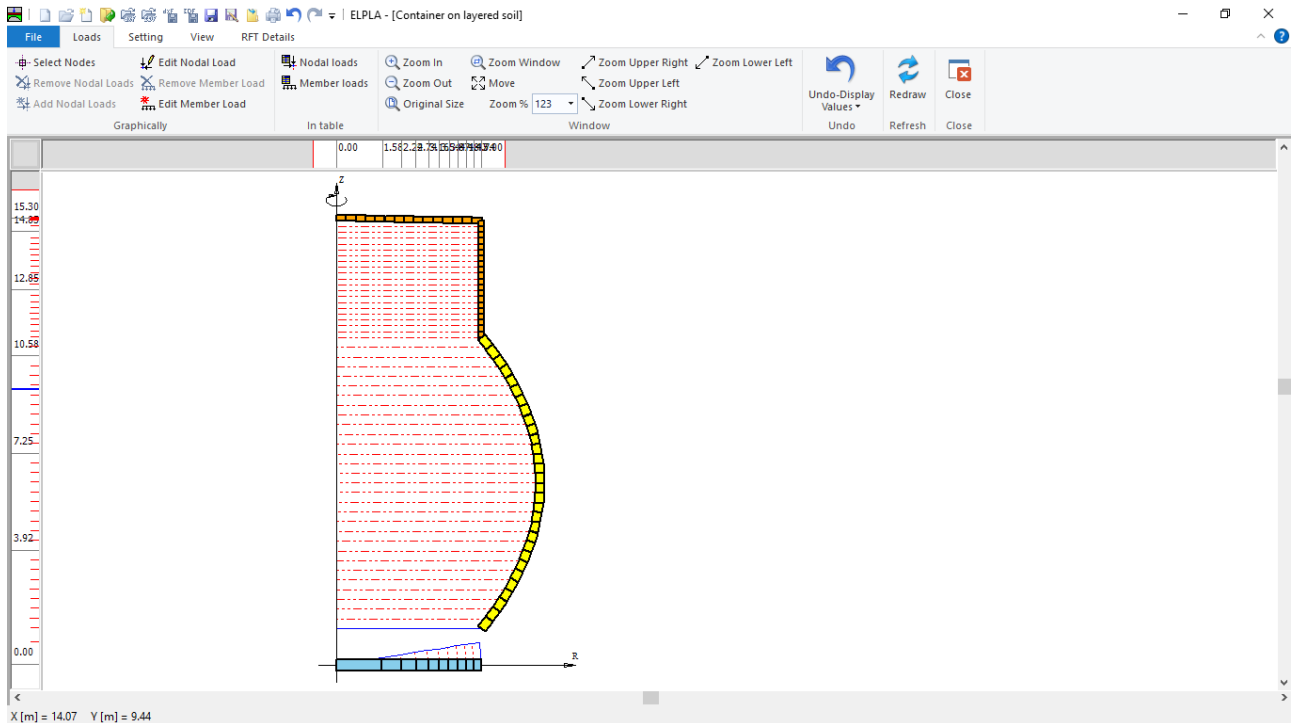

Figure 12.24 "Loads" Window
To define the loads, choose "Loads" command from "Data" Tab. The following window in Figure 12.24 appears.
In *ELPLA*, entering loads may be carried out either numerically (in a table) or graphically using the commands of "Loads" Tab in Figure 12.24. In this example, there is not applied load, as the load has been already defined by the unit weight of the container material, while the hydrostatic pressure on the container is defined by the unit weight of water.
- Choose "Save" command from "File" menu in Figure 12.24 to save the load data
- Choose "Close" command from "File" menu in Figure 12.24 to close the "Loads" Window and return to *ELPLA* main window